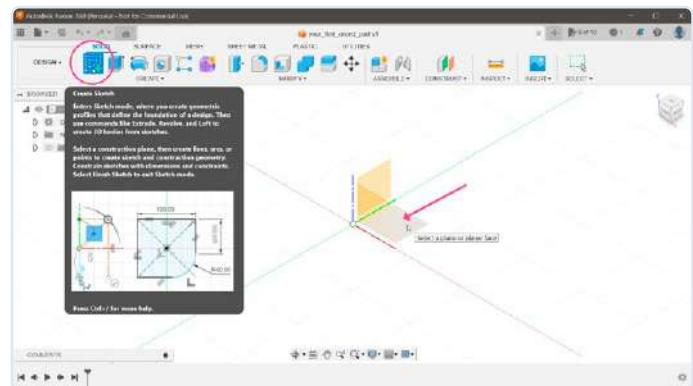

Figure 1: First steps for placing your Sketch. (Source of all screenshots: Autodesk)
1) The first step in creating any 3D model is starting with a 2D drawing called a Sketch (**Figure 1**). In Fusion 360, click the *Create Sketch* button on the toolbar and select a plane upon which to place the sketch. Since our enclosure will be extruded to the top, placing the sketch on the bottom plane in the 3D space makes sense.